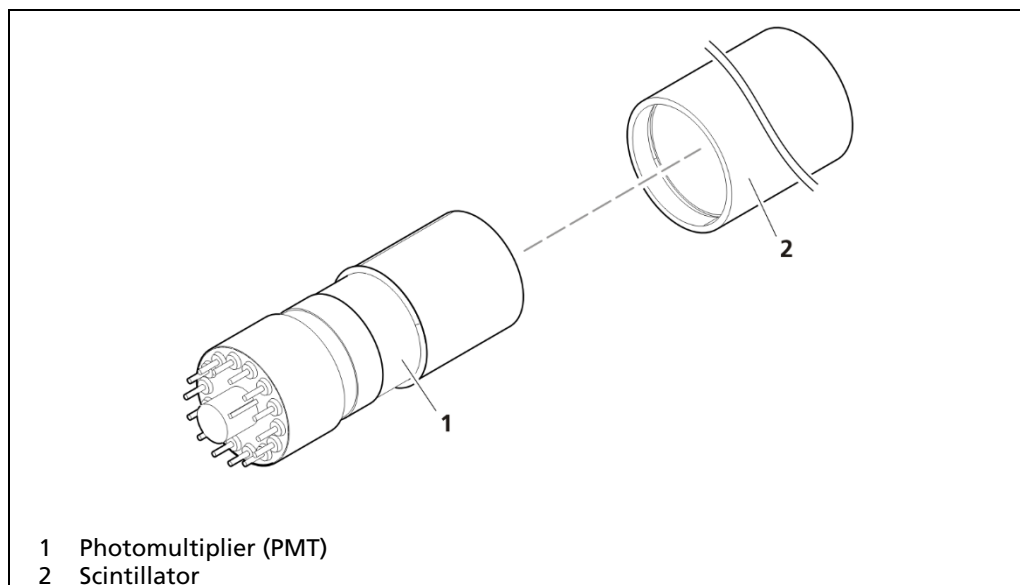

Fig. 54 Representation of the Scintillator and the Photomultiplier
1. Click on the button <Enter Flash Mode> (Fig. 54, item 1).